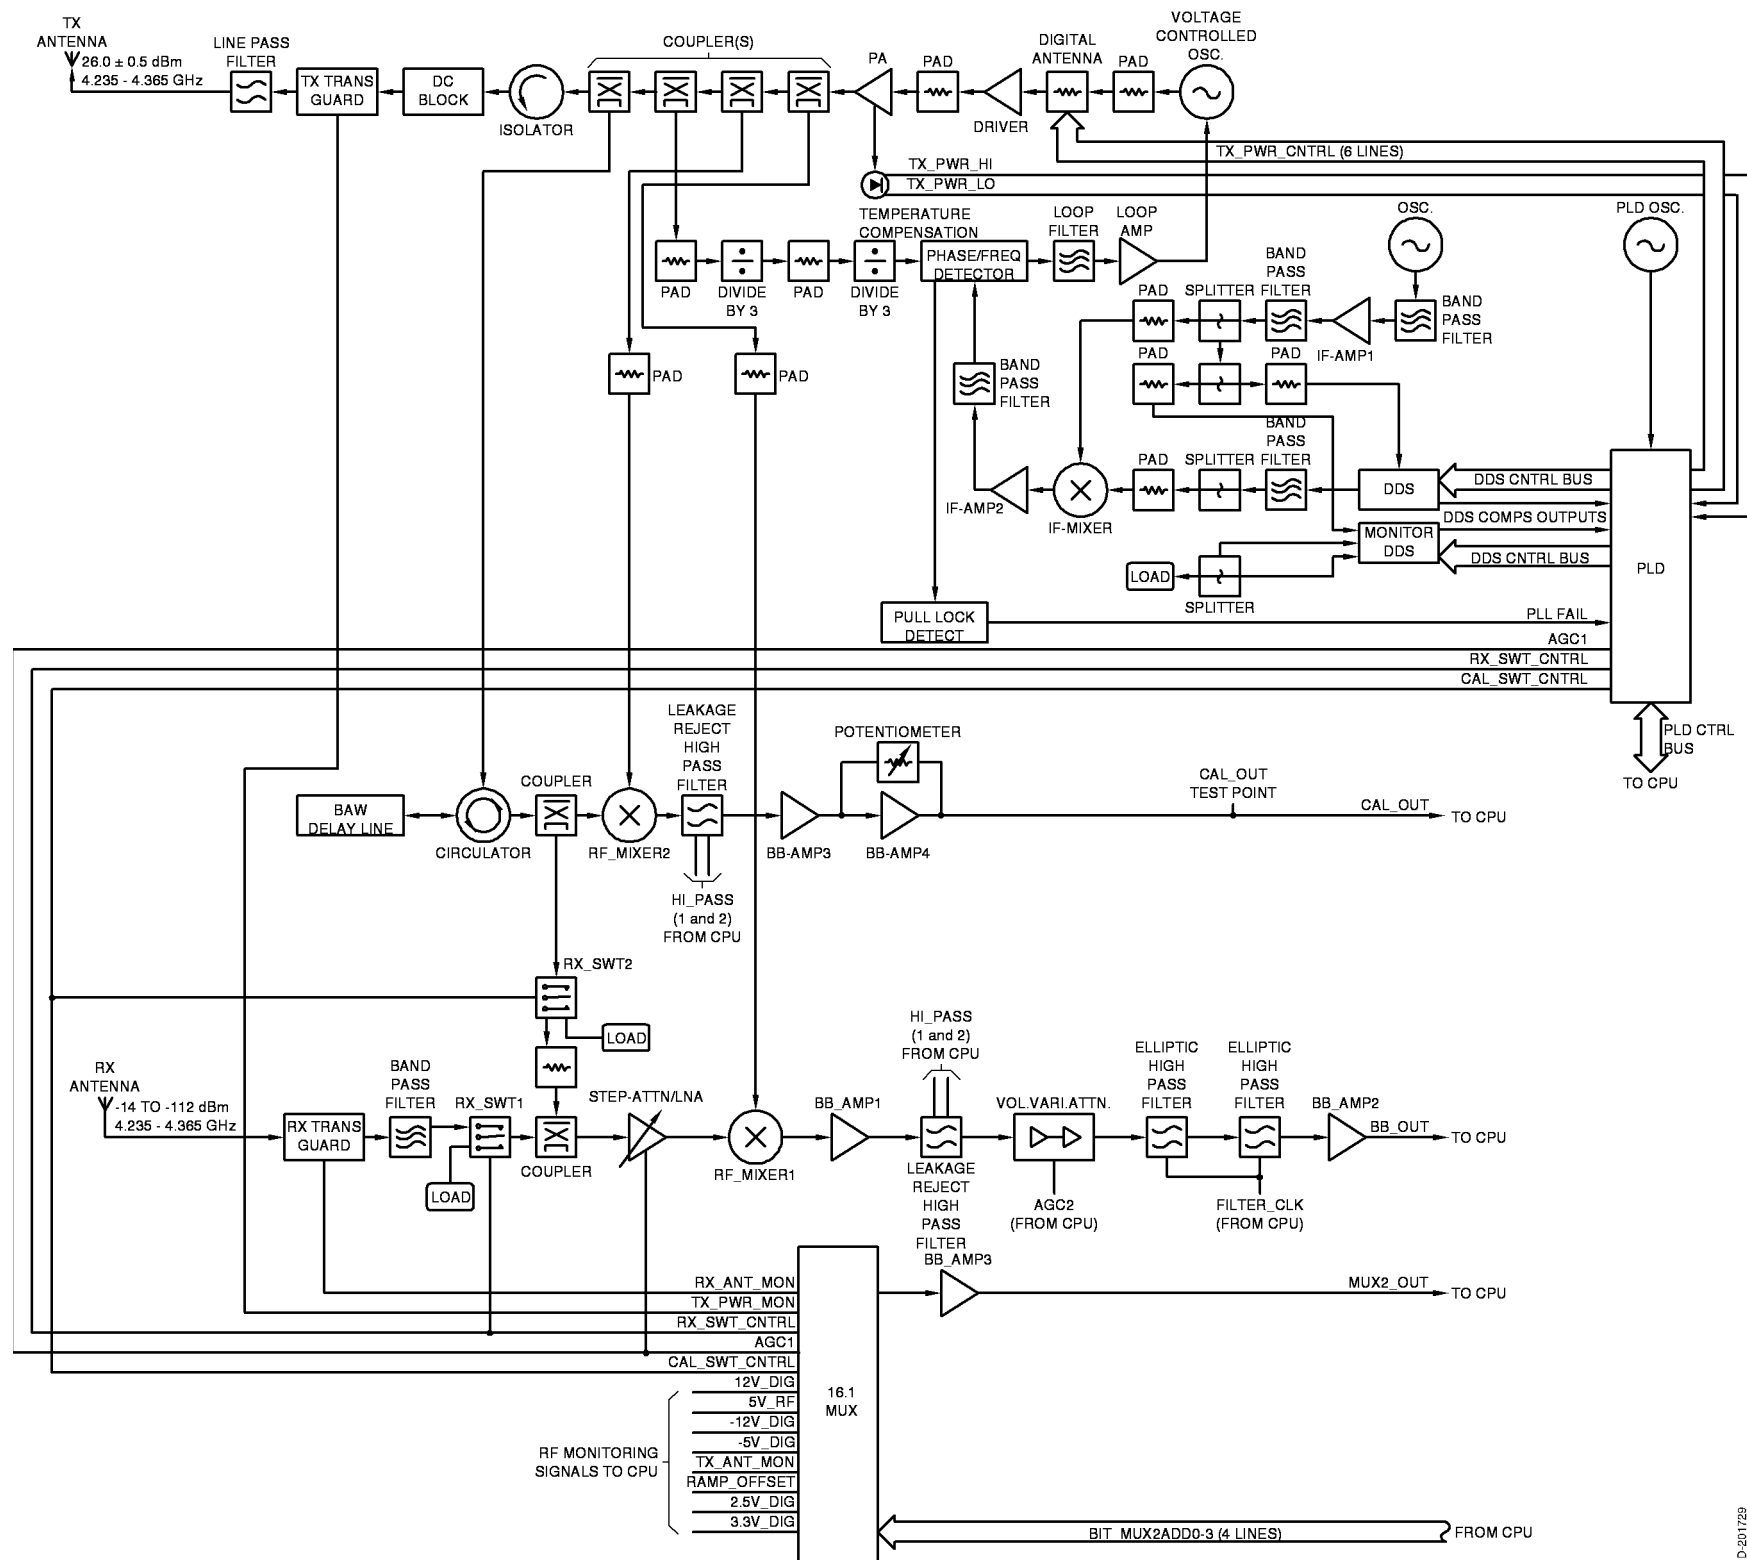

Figure 4. (Sheet 1 of 1) RF Module Block Diagram (GRAPHIC 34-42-37-99B-805-A01)
(1) General
- (a) The RF module transmits and receives FM modulated C-Band signals that are used to determine the altitude above the ground. When the transmitted signal is mixed with the return signal bounced up from the ground, a baseband signal is produced at a frequency that represents the difference between the transmitted and return signal frequencies. The baseband signal frequency is directly proportional to the altitude above the ground. This analog baseband signal is the primary output from the RF Module. A simplified block diagram of the RF circuitry is shown in Figure 4 (GRAPHIC 34-42-37-99B-805-A01)